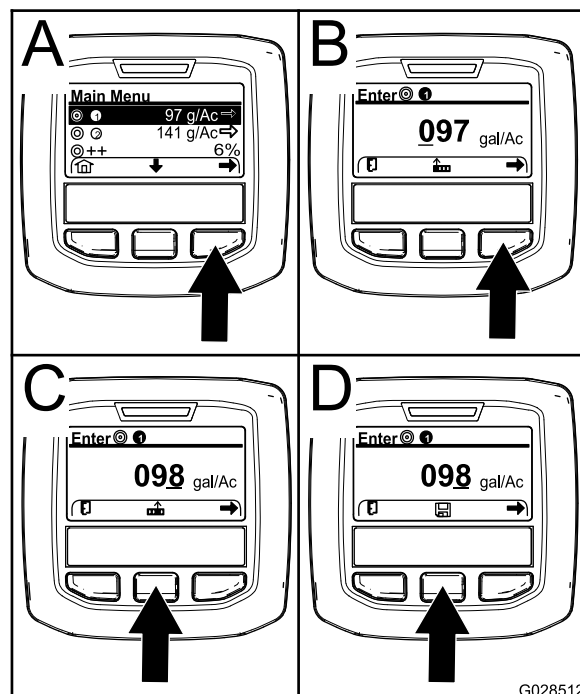

Figure 57
2. If needed, press the center selection button to highlight the application rate for sprayer program 1 (Figure 57).
3. Press the right selection button to select sprayer program 1 (A of Figure 57).
- Press the right selection button (B of Figure 57) to move the cursor to the next numerical position to the right.
- Press the center selection button (C of Figure 57) to increase the numerical value (0 to 9)
Note: The Save Icon will appear above the center selection button (D of Figure 57).
- Press the center selection button (D of Figure 57) to save the programming for application rate.